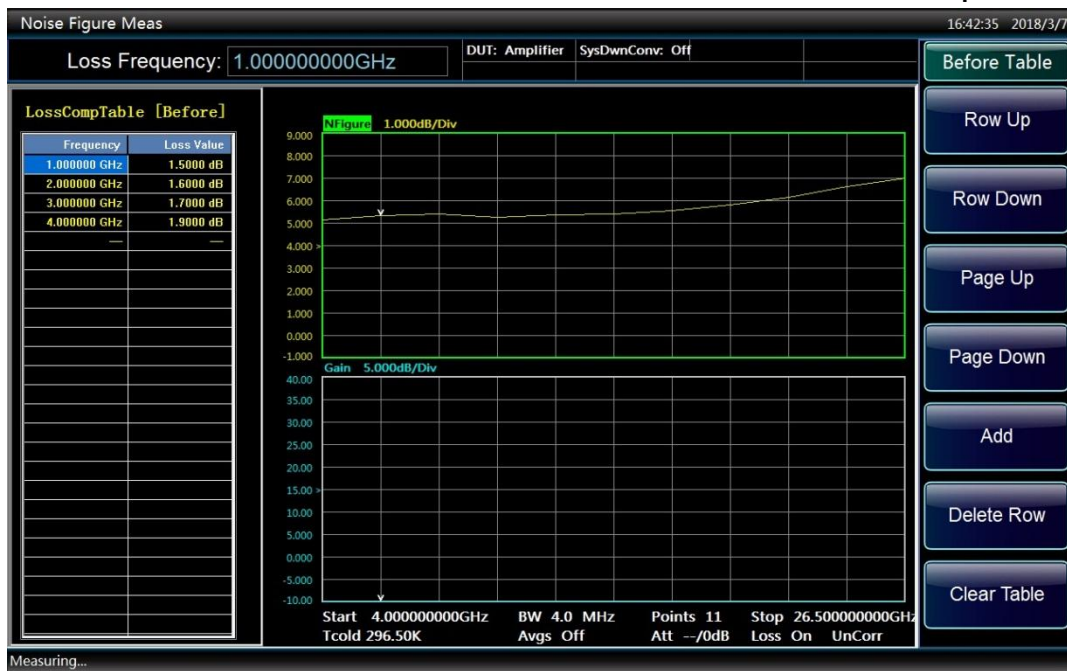

Fig.3.28 Loss Table after Data Input
- Step 7.** Repeat Steps 4 to 6 until you have inputted all the required compensation frequency/loss values. An example of a loss table after the data input is shown in Figure 3.28;